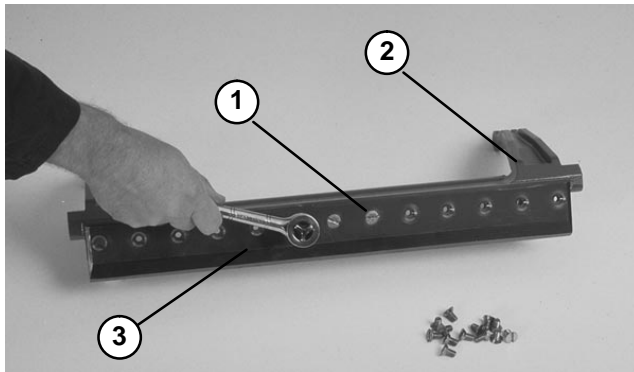

Figure 30
2. Remove screws from bedbar using a socket wrench and bedknife screw tool. Discard screws. Remove bedknife from the bedbar (Fig. 30).